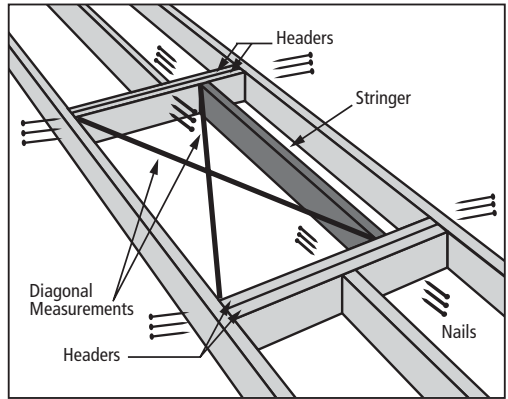

FIGURE 20
**(Figure 20)**
- Locate double headers at each end of opening and secure with (3) 16d nails into each end of the headers.
- Secure using (3) 4" nails into each end of the stringer.